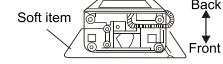

Figure 1
1. Figure 1 indicates the ex-factory installation position of the drain hose.